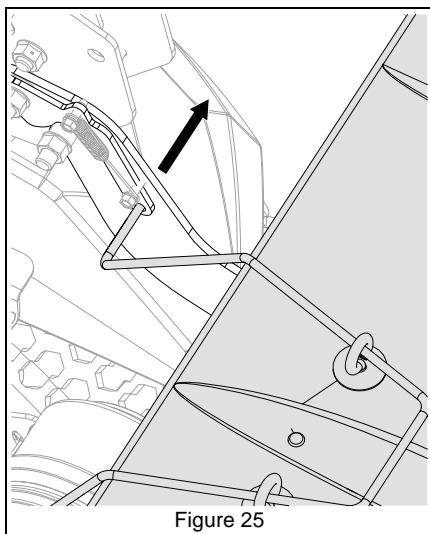

Figure 25
3. Route the rope through the right bagger arm eye and tie a knot. See Figure 25.